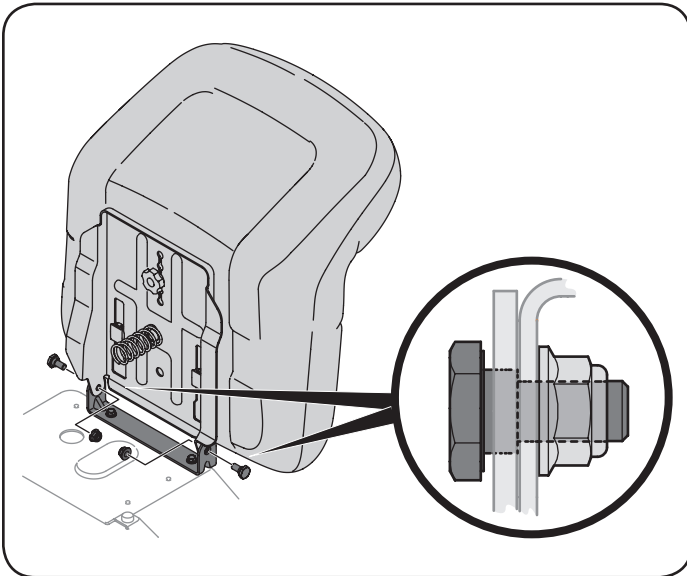

Figure 8
6. Install the two shoulder bolts and lock nuts removed from the seat mounting bracket in Step 1. See Figure 8.